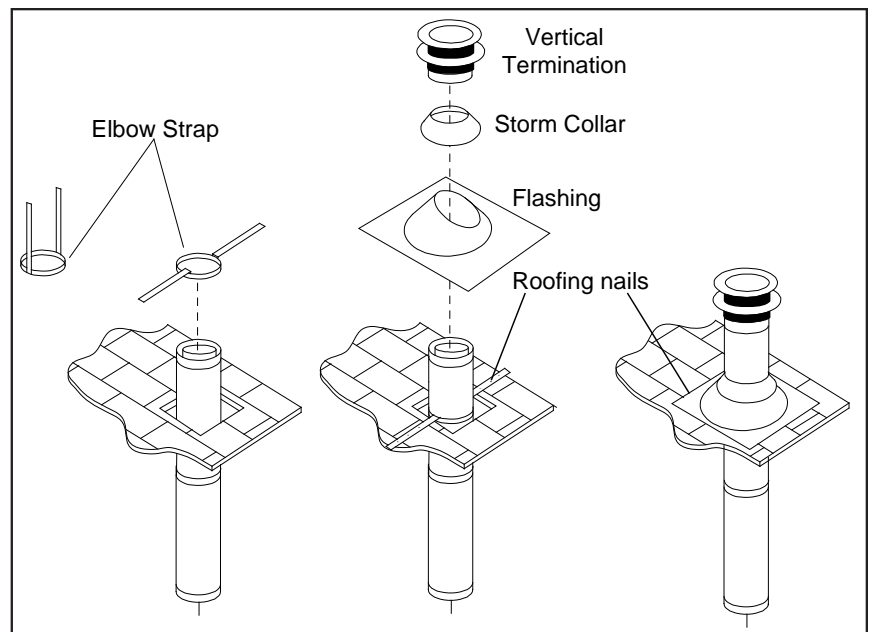

Figure 43: Vertical Vent Termination Installation.
6. Once the pipe sections have been joined, and run up through the hole in the roof, slip an elbow strap over the exposed sections, bend the support straps outwards, and push the elbow strap down to the roof level, as shown in Figure 43. Tighten the clamp around the pipe section. Use a level to make sure the pipe is truly vertical. With roofing nails, secure the support straps to the roof. Seal the nail holes with non-hardening mastic. Trim the excess length of the support straps that extend out beyond the edge of the flashing.
7. Slip the flashing over the pipe section protruding through the roof. Secure the base of the flashing to the roof with roofing nails. Use a non-hardening sealant between the uphill edge of the flashing and the roof. Insure the roofing material overlaps the top edge of the flashing as shown in Figure 43. Verify that you have at least the minimum clearance to combustibles at the roof line.
9. Slip the storm collar over the pipe, and push it down to the top of the roof flashing as shown in Figure 43. Use the non-hardening sealant around the joint between the pipe and the storm collar.